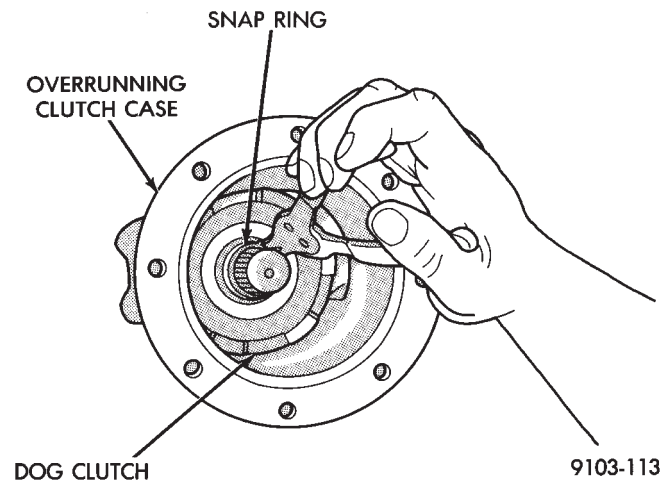

Fig. 12 Remove Snap Ring
(9) Remove shaft snap ring and slide dog clutch off of the shaft (Fig. 12).